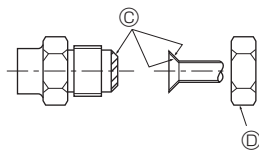

Fig. 4-1
- Apply thin layer of refrigerant oil to pipe and joint seating surface before tightening flare nut. ① (Fig.4-1)
- Use 2 wrenches to tighten piping connections. ② (Fig.4-1)
- Apply refrigerating machine oil over the entire flare seat surface. ③ (Fig.4-1)
- Use the flare nuts for the following pipe size. ④ (Fig.4-1)
Ⓐ (Fig. 4-1)
Ⓑ (Fig. 4-1)